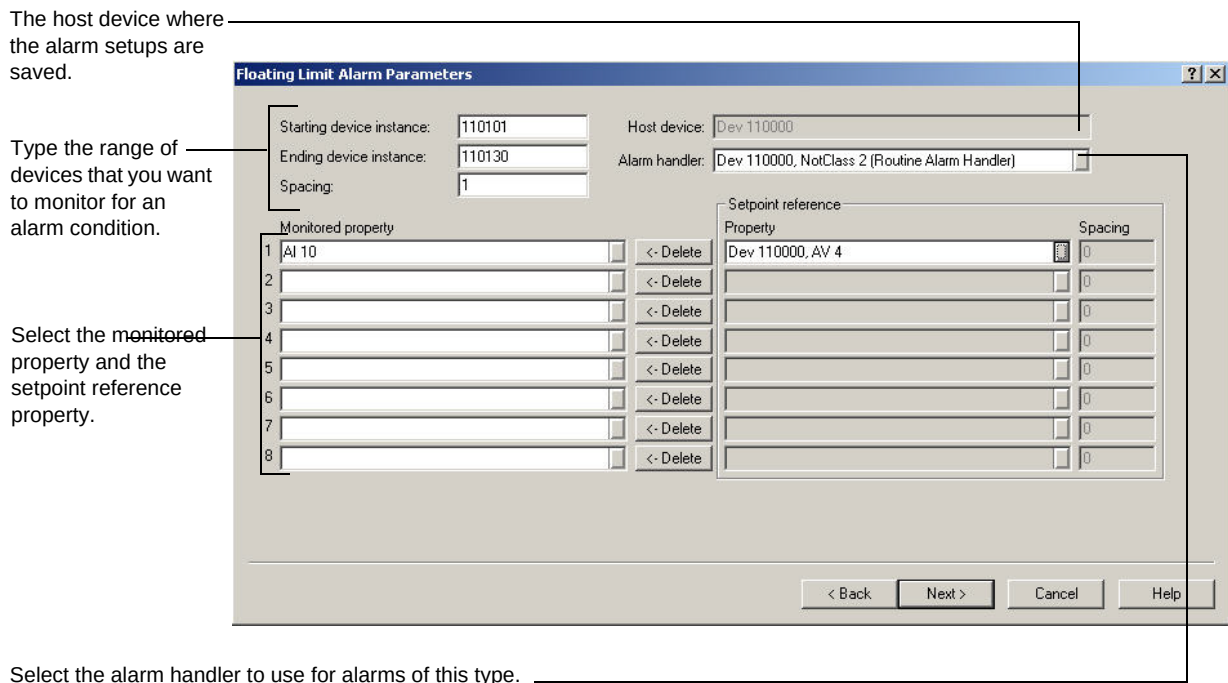

**Figure 4.9** Floating Limit Alarm Parameters dialog box of the New Alarm Wizard
**Select the host device where alarm setups will be saved** The host device is the global controller where you want the alarm setups saved when you finish. For Marc, this is the BTI with device instance 110000. If the controller appears in Device Manager, its device instance appears in the list (see Figure 4.9 on page 65); otherwise, you can type the device instance directly in the box.
Marc wants the alarms sent to his operator workstation. He clicks the small button beside the Alarm Handler box to select an alarm handler that is stored in the host device (see Figure 4.9).
**Select the monitored property and the setpoint-reference property** The monitored property is the current airflow, which is AI-10. The setpoint reference is the desired airflow, which is AV-4. Marc clicks the small button beside each box, and then selects the properties in the Object Specification dialog box (see Figure 4.9 on page 65).